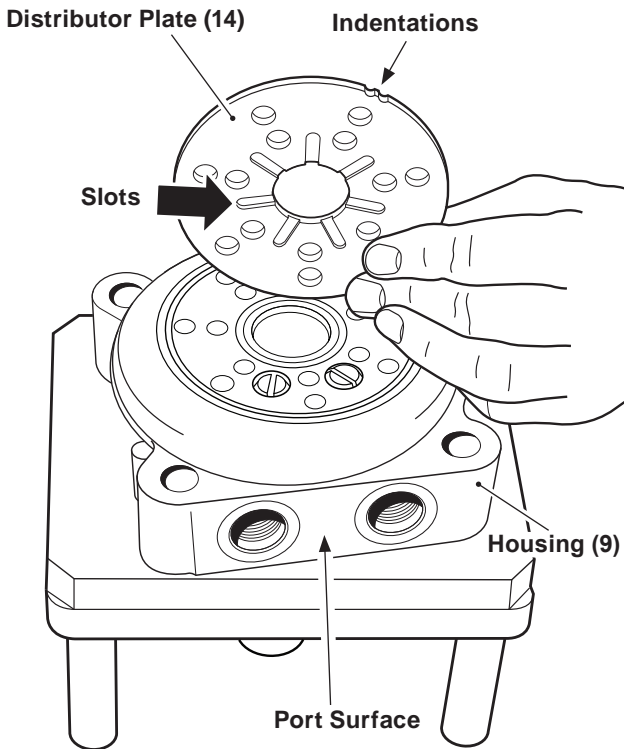

Figure 13, Distributor Plate
1. Mount seal (5), washer (4), and ball bearing (3) onto output shaft (7). See page 11.
2. Install check valves (11), needle bearing (12), output shaft assembly, retaining ring (2), and O-ring (13). See pages 12 - 14.
3. Turn the distributor plate (14) so that the slots are against the motor housing (9) and indentation in the distributor plate is pointing to port surface. See figure 13.